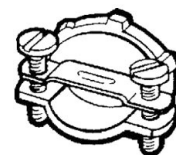

Fig. 13: Cable Clamp
5. Insert your CAT5/6 Ethernet cable first through a cable clamp (Fig. 13) and then through a knockout located on the right side of the panel enclosure. Pull only enough of the Ethernet cable into the enclosure to allow the plug to be easily inserted into the Ethernet board receptacle.